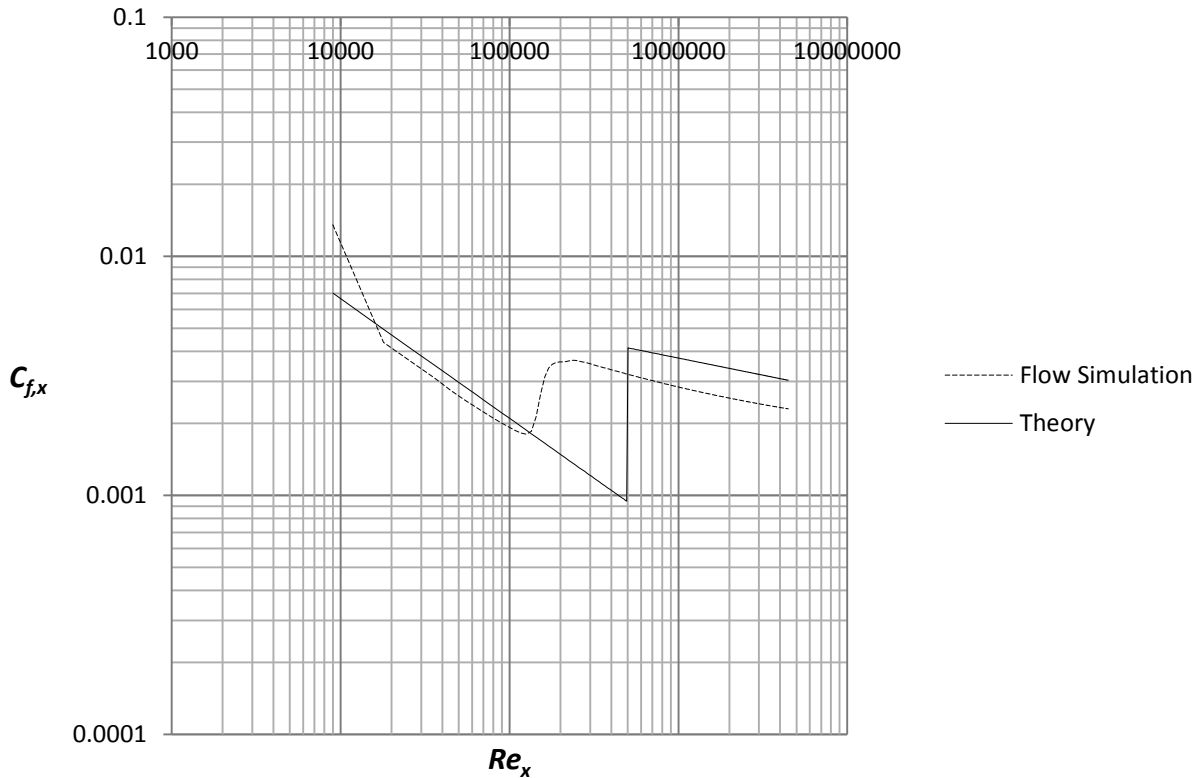

Figure 2.32 A comparison between Flow Simulation (dashed line) and theoretical laminar and empirical turbulent friction coefficients
34. Place the file “**graph 2.32**” on the desktop. Repeat step 24 and choose the sketch  $x = 0 - 0.9 \text{ m}$ , uncheck the box for **Velocity (X)** and check the box for **Shear Stress**. Rename the xy-plot to **Local Friction Coefficient for Laminar and Turbulent Boundary Layer**. An Excel file will open with figure 2.32. Figure 2.32 is showing the Flow Simulation is able to capture the local friction coefficient in the laminar region in the Reynolds number range 10,000 – 200,000. At  $Re = 200,000$  there is an abrupt increase in the friction coefficient caused by laminar to turbulent transition. In the turbulent region the friction coefficient is decreasing again, but the local friction coefficient from Flow Simulation is significantly lower than empirical data.